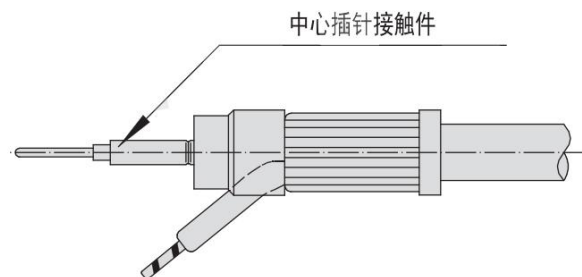

Figure 3.4
④ As shown in Figure 3.4, proceed as follows: